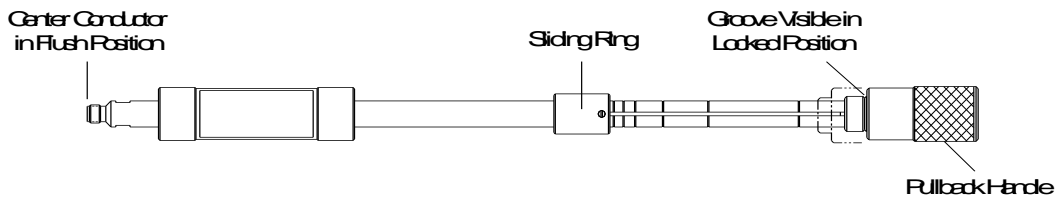
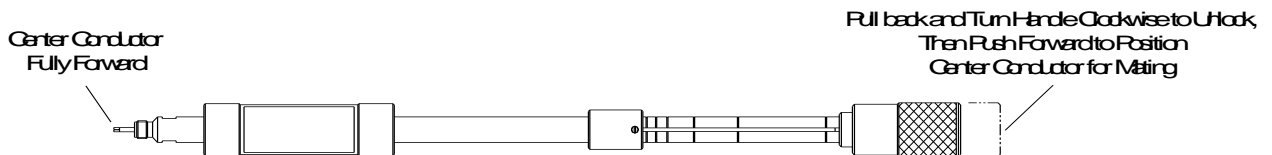

Figure 2. Sliding Termination in Locked Position
Figure 3. Sliding Termination in Unlocked Position (Center Conductor Fully Forward)
- Refer to **Figure 2** and **Figure 3** which show the sliding termination in its locked and unlocked positions, respectively.